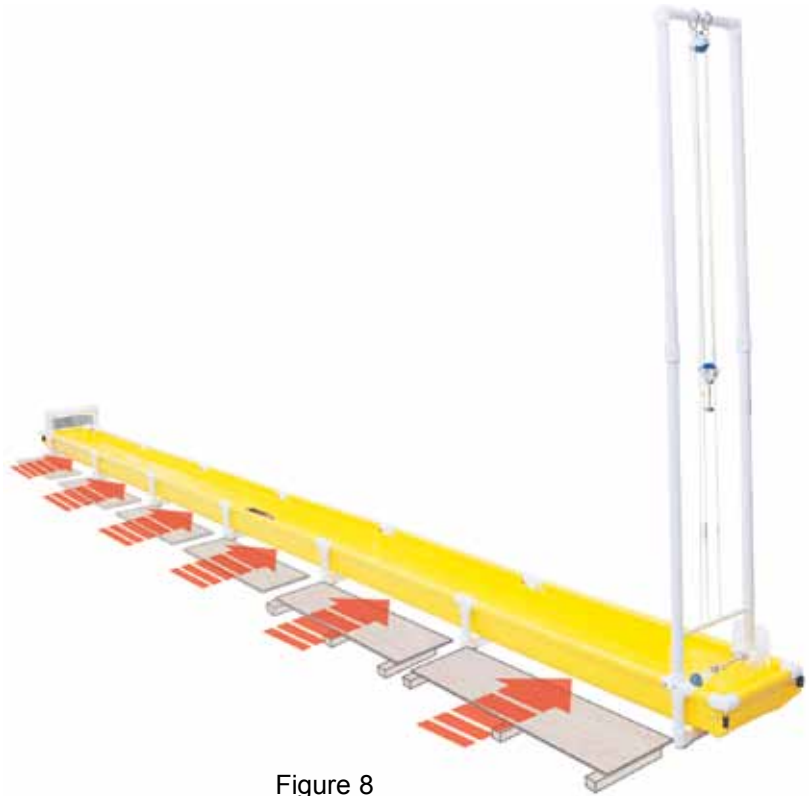

Figure 8
13. Set up the tank support planks (Figure 8 on next page).